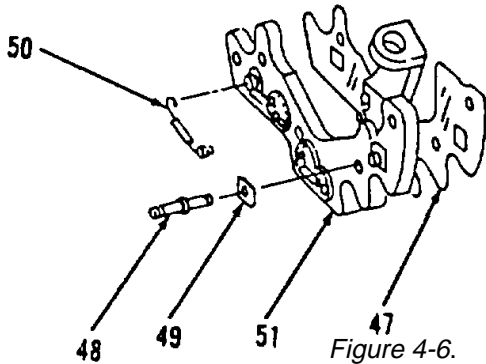

Figure 4-6.
- 26. Install, carefully sliding rotor (57) through stator (72) onto field coil (75) in housing (80).
- 27. Install four washers (56) and screws (55).
- 28. Install lockwasher (54) and screw (53).
- 29. Install plug (52).
- 30. Install three positive diode wire assemblies (50, Figure 4-6), if removed, at terminals. Press into heat sink (51).
- 31. Install three insulators (49) and studs (48).